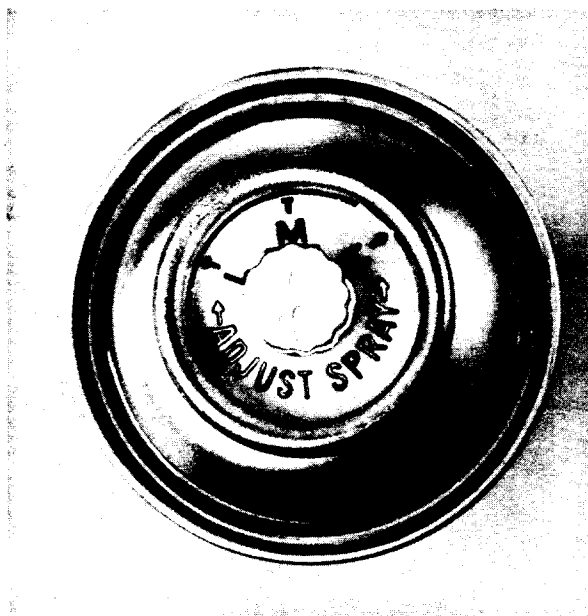

Fig. 2—Actuator Spray Nozzle
4.03 Apply the C insulation spray holding the can about 10 inches from the wirework and spraying evenly over the entire bundle of wires. Ensure that all wires are completely covered with the insulation spray. If excess spray is applied, the spray will run and drip. Adjust the spray pattern by turning the actuator nozzle on the can (Fig. 2).